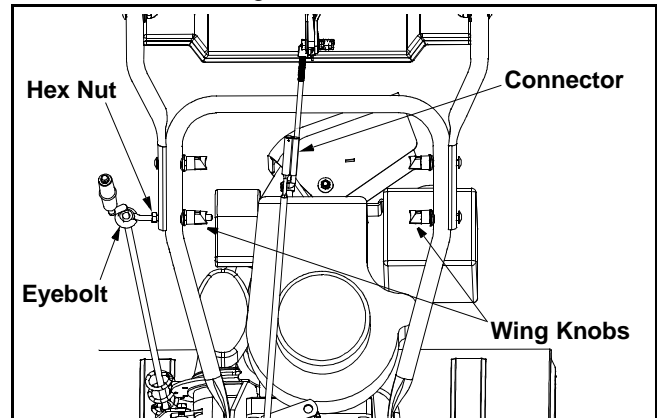

Figure 3
- Secure the upper handle and lower handle with the two plastic wing knobs, cupped washers and carriage bolt (eyebolt on the left side) previously removed. See Figure 3.
- Slide the shift rod connector down over the end of the lower shift rod. Tap the connector until it **locks** on the lower shift rod. See Figure 3.